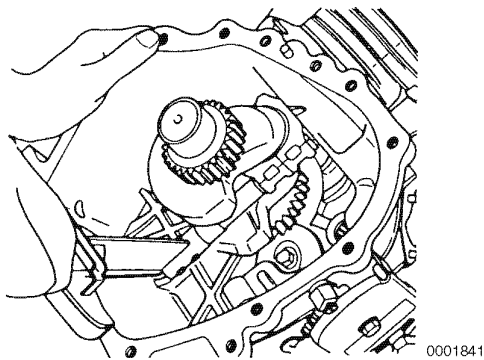

Figure 8-97
7. Apply a light coat of clean engine oil to the rod cap bolts. install the connecting rod cap. Tighten the connecting rod bolts (**Figure 8-97**) to the specified torque in two stages as shown in chart below. *See Special Torque Specifications on page 8-16 for specifications.*